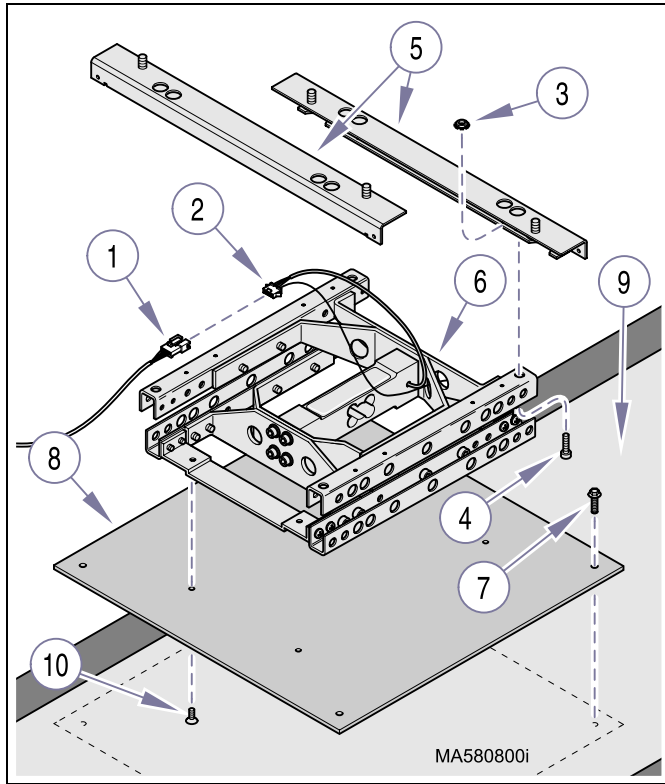

Figure 4-10. Platform Assembly Removal / Installa-
- (1) Access platform scale components (Refer to para 4.8).
- (2) Disconnect display harness (1, Figure 4-10) from load cell harness (2).
- (3) Remove one screw (3) and cable clamp (4) from scale mount weldment (5). Remove cable clamp from display harness (1).
- (4) Remove four locknuts (6), screws (7), and two scale mount weldments (5) from Tanita scale platform (8).
- (5) Remove four screws (9) and top scale mount (10) from pediatric top assembly (11).
- (6) Remove four nuts (12), screws (13), and top scale mount (10) from Tanita scale platform (8).